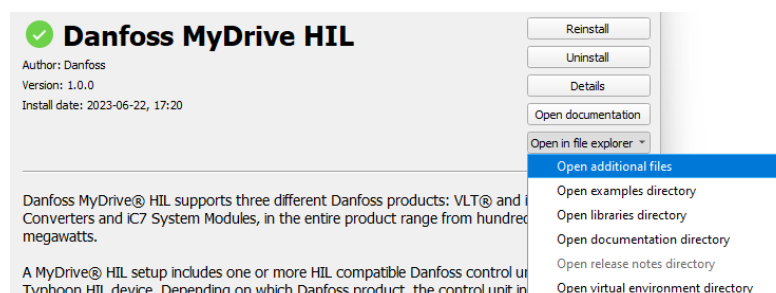

Figure 5: Directories found in Package Manager.
- 1) Right click on *lcp_sim.exe* (placed in the additional_files/lcp_sim folder which can be loaded via Typhoon Hil's Package Manager, see Figure 5),
The Danfoss libraries comes with a predefined set of data files for iC7 and VLT® Frequency Converters and motors. Since there can be a need to generate user defined data files, a folder named *schemas* is placed in the additional files folder, see Figure 5. The folder contains schemas for the different data files. An *examples* folder is places inside the schemas folder. This folder holds example files for the different file types.